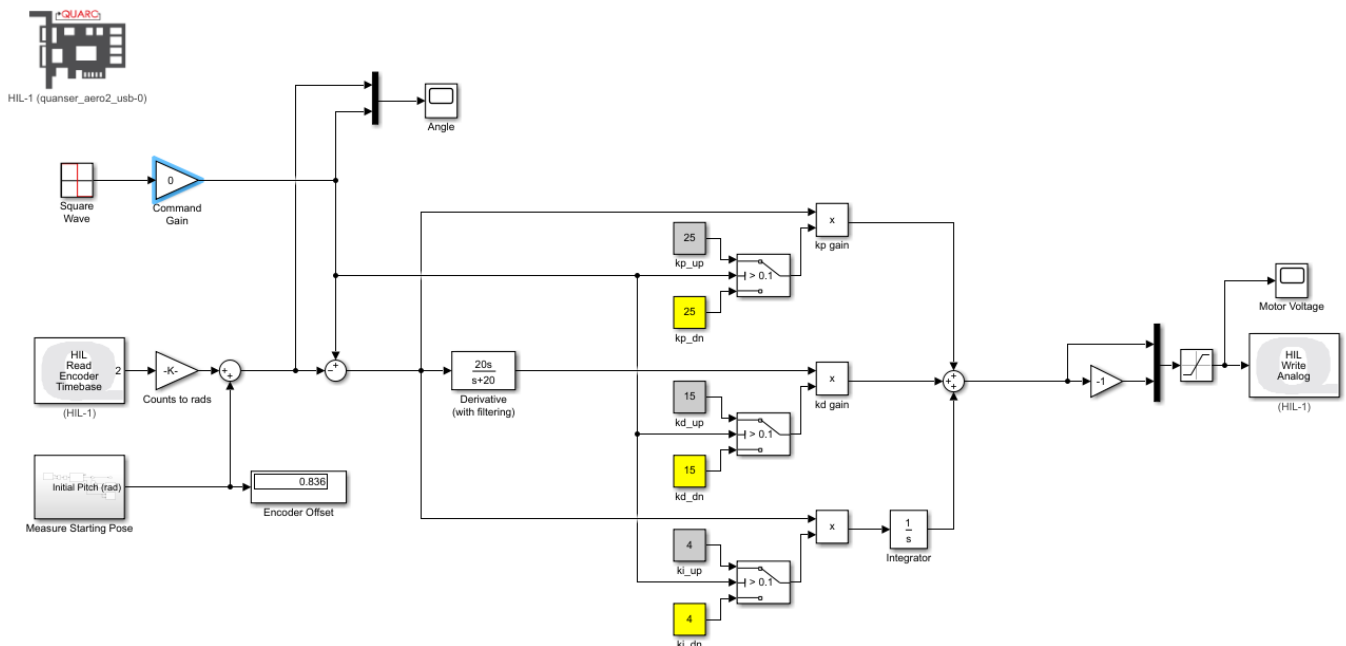

Figure 1: Simulink model that commands a square wave and allows for different control gains based on the setpoint.
1. Open the Simulink model `q_aero_gain_scheduling.mdl` (Figure 1). This model contains a PID controller which commands the Aero 2 to cycle between 0 and -0.5 radians of pitch. The PID controller was tuned for a 1.8 second peak time, 25% overshoot, and 0.05 radians of steady state error.
5. Adjust the "down" control gains (highlighted in yellow in Figure 1) for the negative setpoint such that the overshoot and steady-state error is within the design specifications on both the rising and falling steps. Record the gains which produce the required result.